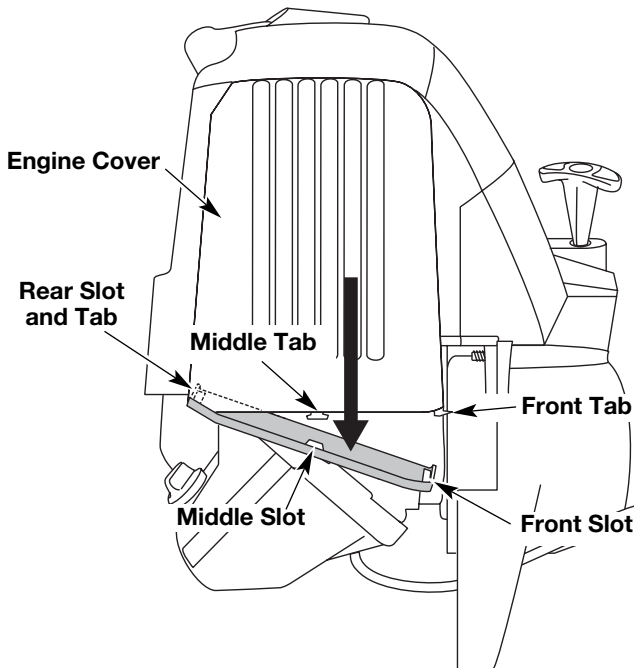

Fig. 62
1. Remove the muffler cover by pressing down on it, separating it from the engine cover. Using a flat blade screwdriver, disengage the middle and front tabs and slots first. The cover will hinge off from the rear tab (Fig. 62).
13. Reinstall the muffler cover. Slip the rear tab on the muffler cover into the engine cover rear slot. Then slide the remaining slots into the tabs until they snap into place (Fig. 62).